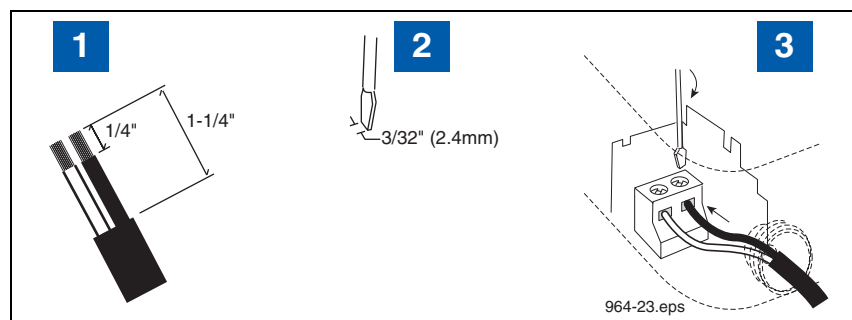

Figure 20. Connecting Input Wiring To Transmitter Terminal Blocks
4. Strip back cable jacket and wires as shown in Figure 20.
### LEGEND FOR NUMBERED BOXES IN Figure 20
7. Strip back cable jacket and wires as shown in Figure 20.
5. Slide the nut over the cable. Choose the correct size bushing and slide it over the cable. Dress the cable jacket according to the dimensions in Figure 20. Insert the cable into the appropriate opening at the bottom of the housing. Insert each wire into the appropriate terminal and tighten. Leave a small amount of slack in each wire. Slide the bushing into the bottom of the housing. Hand tighten the nut.
9. Slide the nut over the cable. Choose the correct size bushing and slide it over the cable. Dress the cable jacket according to the dimensions in Figure 20. Insert the cable into the appropriate opening at the bottom of the housing. Insert each wire into the appropriate terminal and tighten. Leave a small amount of slack in each wire. Slide the bushing into the bottom of the housing. Hand tighten the nut.